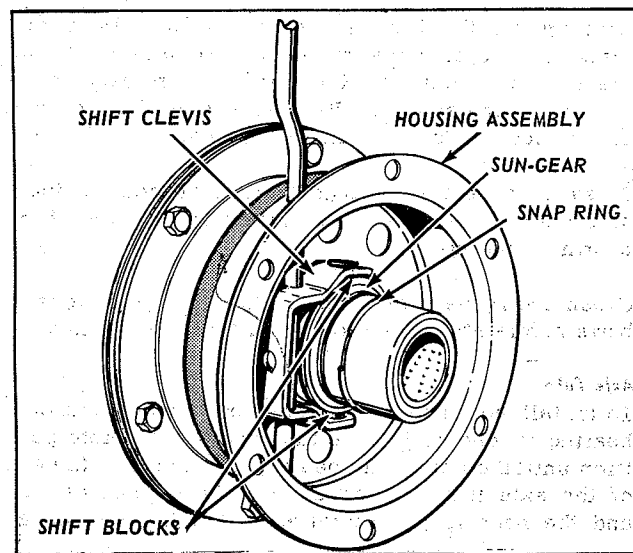

Figure 7
7. Remove the 6 hex nuts and lockwashers that hold the gear case cover to the housing assembly, and separate the housing assembly and gear case cover. Be sure to remove the hex nut that holds the shift rod to the rod guide on the side of gear case cover. Remove the snap ring from the hub of spider assembly as shown in Figure 7. Slide the sun-gear off of the hub of spider assembly, while turning the shift rod to allow the sun-gear to free itself from the shift blocks attached to the shift clevis. When the sun-gear is free of the spider and the shift clevis, separate the housing assembly from the cover assembly and allow the housing seal to drop free.